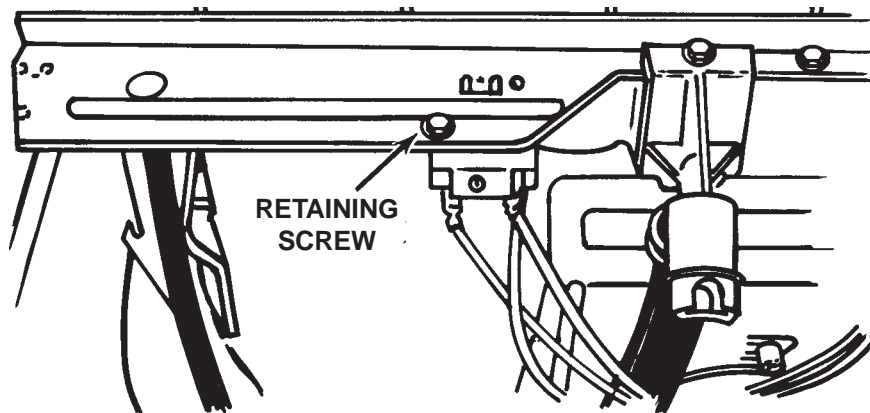

Fig. 1-20
2. Disconnect the three (3) wiring harness connectors from the motor relay terminals.
3. Remove the Hex-head screw securing the motor relay to the tub support. (*Fig. 1-20*)